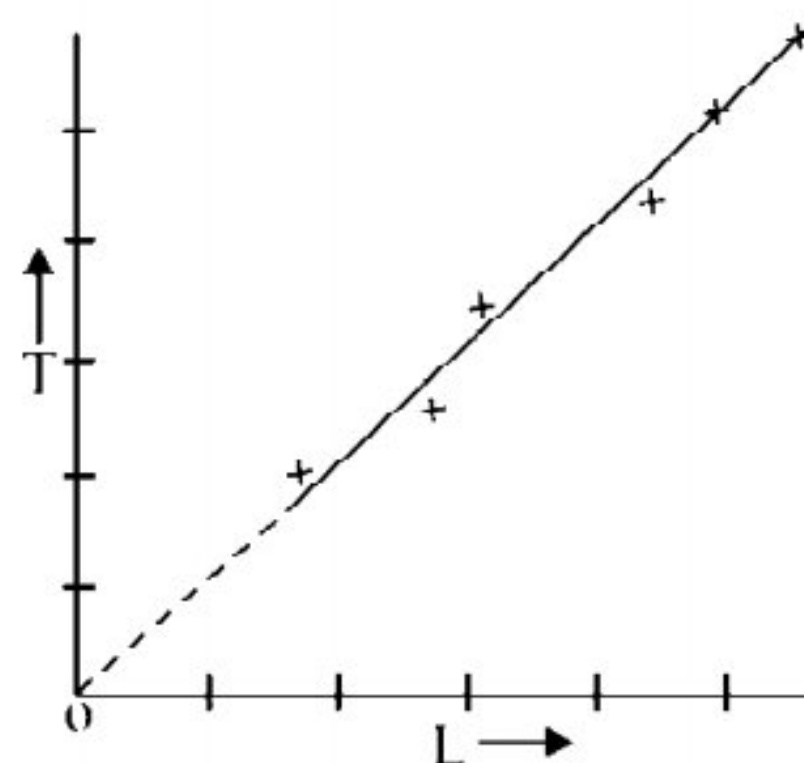

Fig. 3.4
- (vii) Repeat steps (3) to (6) making shorter lengths of the pendulum upto about 20 cm.
- (viii) For each length calculate T^2 and plot a graph between T^2 versus l (Fig. 3.4) from this graph find the value of l for $T^2 = 4s^2$.